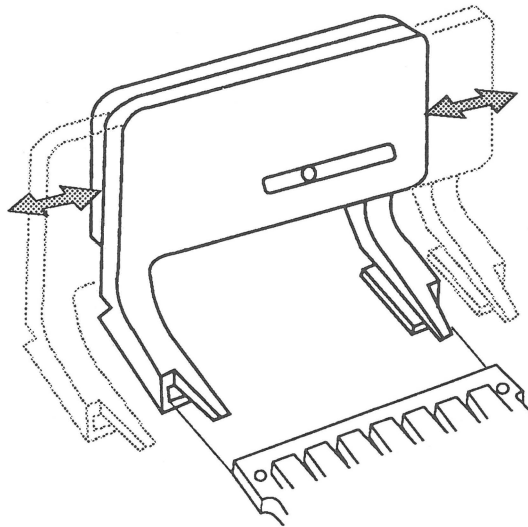

FIGURE 5
1. Adjust the tool to the size of the SIMM board you are going to remove (Figure 5).